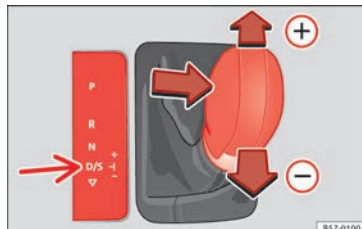

Fig. 182 Centre console: changing gear with tiptronic
- Move the selector lever forwards  to select a higher gear »» **Fig. 182**.